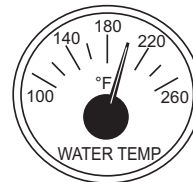

Figure 57. Coolant Temperature Gauge
10. The **coolant temperature gauge** (Figure 57) will indicate the coolant temperature. Under normal operating conditions the coolant temperature should be between 167°–194°F (75°–90°C).